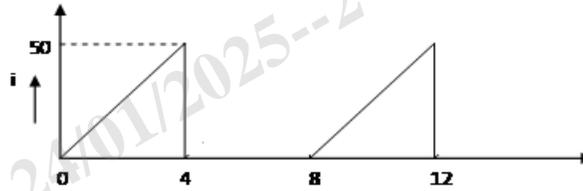

Fig. 6
- Q4** Define average value, RMS value, form factor and peak factor. Find the average value, RMS value, form factor and peak factor of the waveform shown in Figure 6. (16)